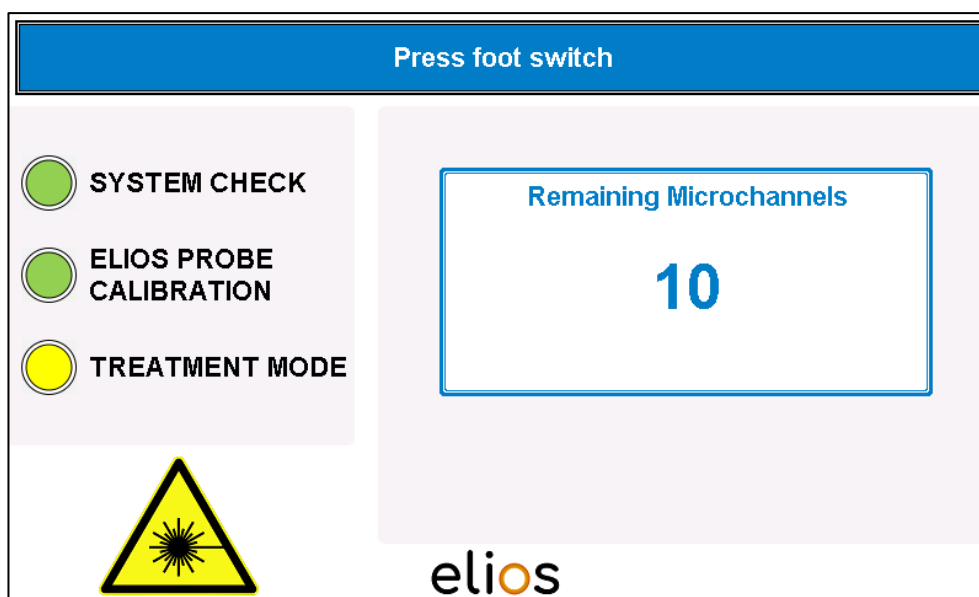

Fig. 4-15: TREATMENT MODE
- The laser is **immediately** triggered by activation of the foot switch, a treatment (20 pulses) can be placed (Fig. 4-15).
- The display shows the remaining number of microchannels (Fig. 4-15).